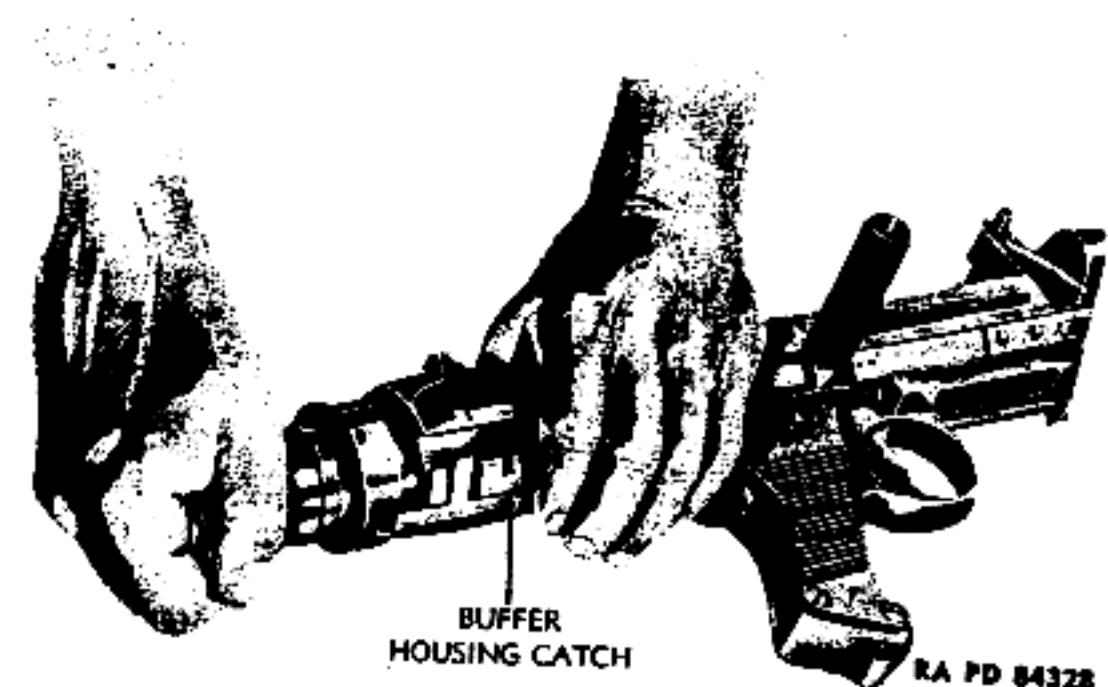
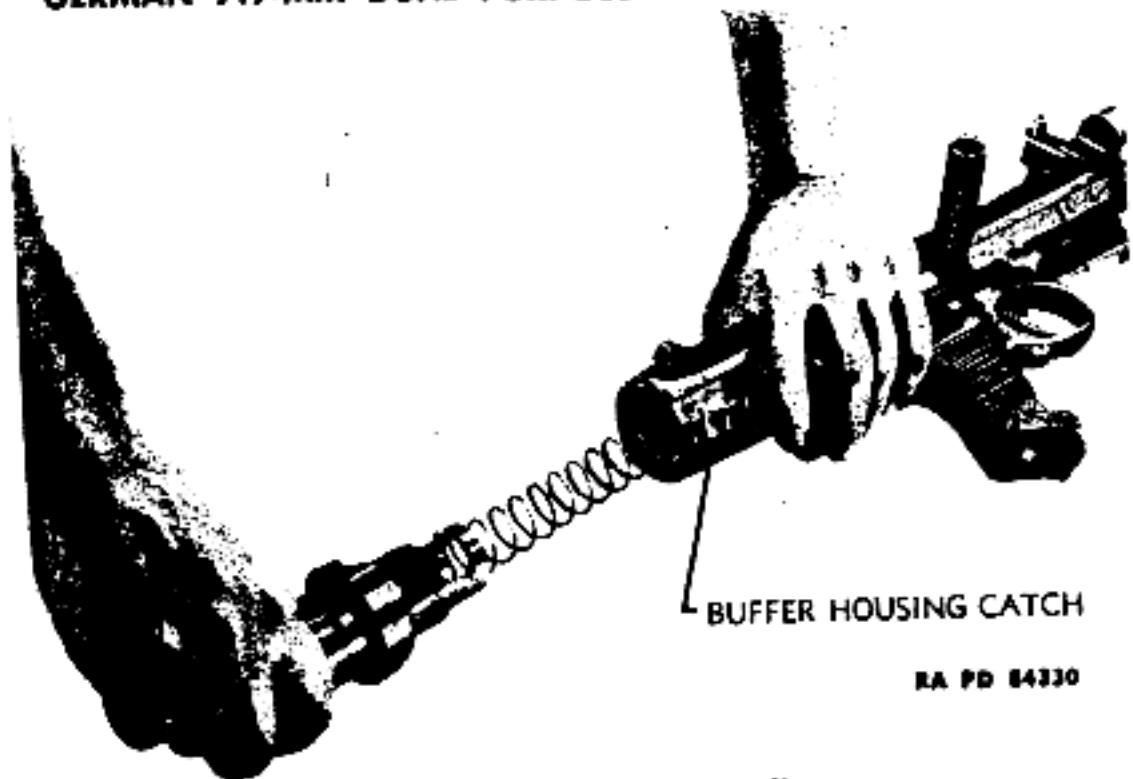

Figure 47 — Unlocking Buffer
Figure 48 — Removal of Buffer
c. Buffer Housing. Press the buffer housing catch beneath the rear end of the receiver, rotate the buffer housing one quarter turn counterclockwise (fig. 47) and remove the housing (fig. 48), taking care not to let the spring fly out.